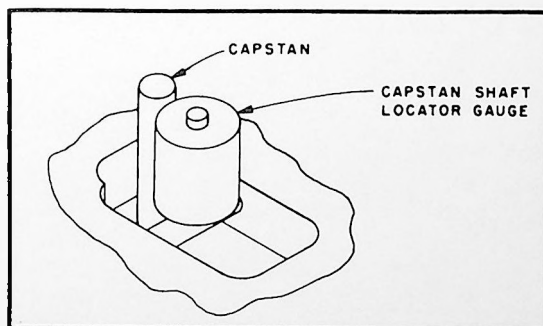

Figure 3-2
- 001) over the pressure roller shaft as illustrated in Figure 3-2. Manually move gauge up to (against) the capstan shaft. Check to see that the gauge surface lies flat against the capstan shaft. If not, loosen the motor mounting screws, and gently move the motor until the gauge surface and the motor shaft are "flat" against each other.
2. Starting with the bottom deck, remove pressure roller and place the special locator gauge (830-0043-001) over the pressure roller shaft as illustrated in Figure 3-2.